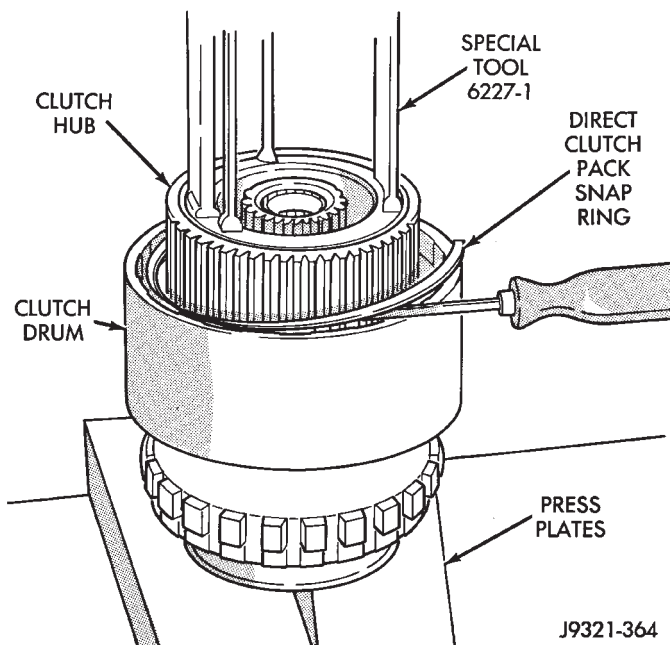

Fig. 20 Direct Clutch Pack Snap Ring Removal
- (5) Remove direct clutch pack snap ring (Fig. 20).